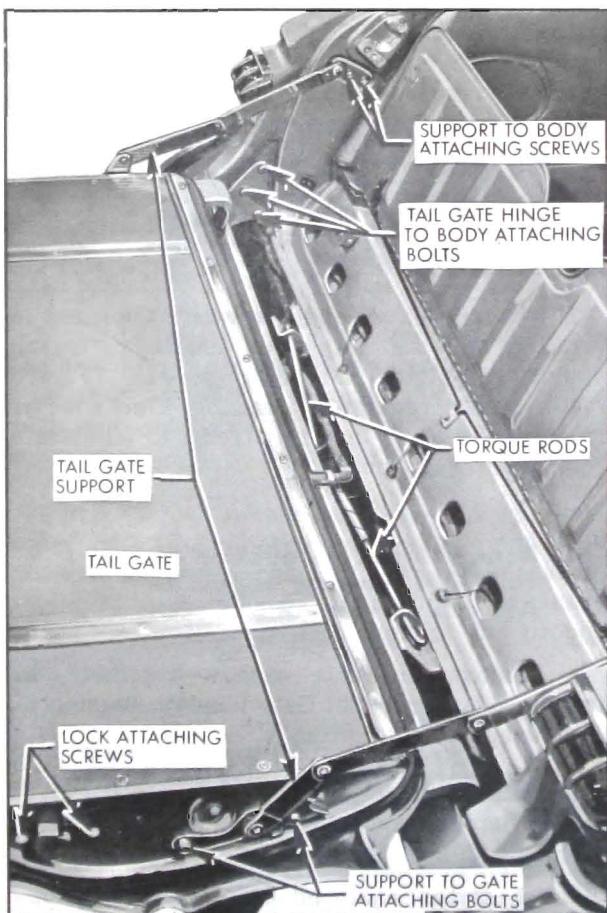

Figure 4-18—Tail Gate Support
4. Suitably support tail gate to facilitate detachment of tail gate supports; then remove support attaching screws (Figure 4-18) from both sides of the tail gate and fold tail gate support against the body.
3. Remove tail gate support attaching screws securing support plates to body and tail gate (Figure 4-18) and remove support assembly.
2. Remove tail gate window glass run side channel attaching screws (Figure 4-18) and remove channel from side of tail gate from which lock is being removed.
4. Remove tail gate lock attaching screws (Figure 4-18) and remove tail gate lock with attached connecting rod from tail gate; then detach connecting rod from lock.